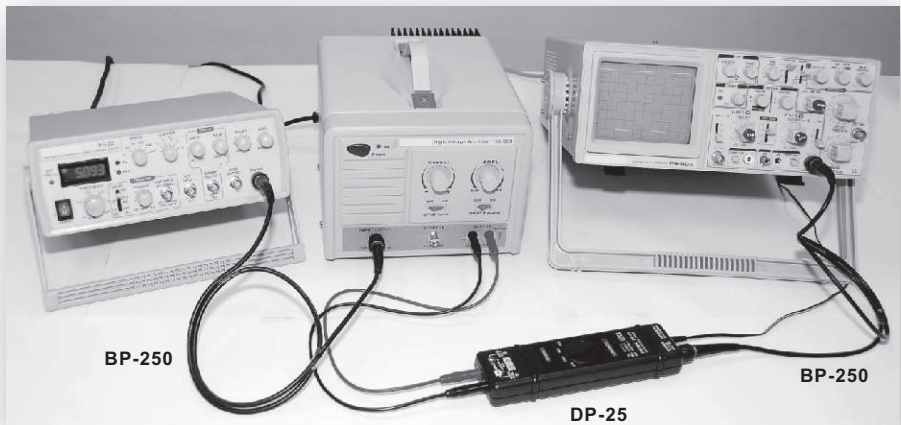

Figure 14.
5.2 Use Function Generator as input, and HA-800 output connects to Differential Probe as interface to transmit signal to oscilloscope to observe. (Figure 14.)